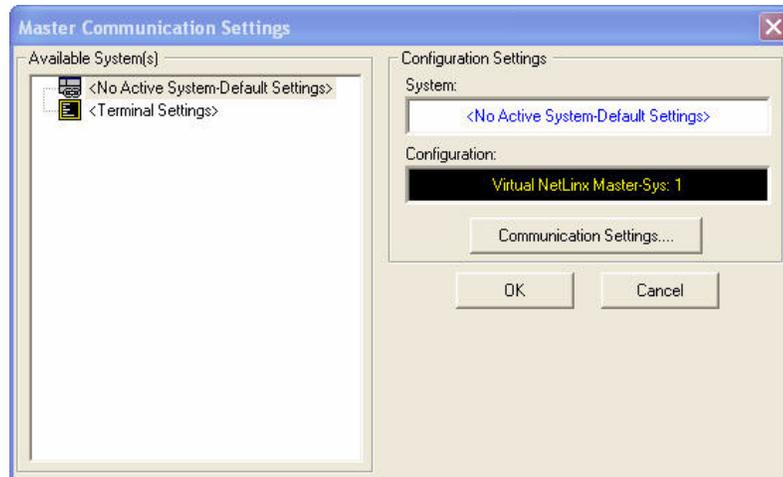

FIG. 23 Master Communication Settings dialog
3. Select **Settings > Master Communication Settings** from the Main menu to open the *Master Communication Settings* dialog (FIG. 23).